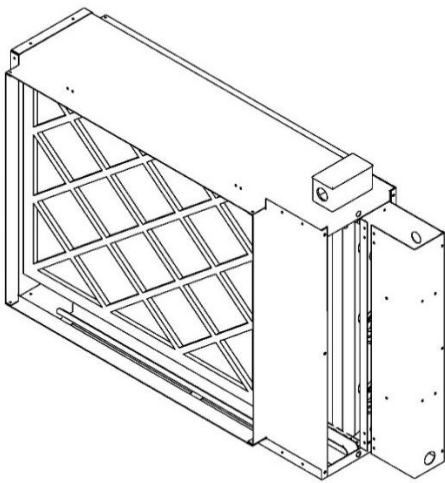

Figure 19: CU-R3 Cover Removal
2.) For CU-R3's, remove access cover by loosening screws with a Phillips-Head screwdriver. See Figure 19.
- 12.) For CU-R3's reattaches access cover and reinsert screws Phillips-Head screws. See Figure 19.
10.) For CU-R3's reattaches access cover and reinsert screws Phillips-Head screws. See Figure 19.
9.) For CU-R3's reattaches access cover and reinsert screws Phillips-Head screws. See Figure 19.